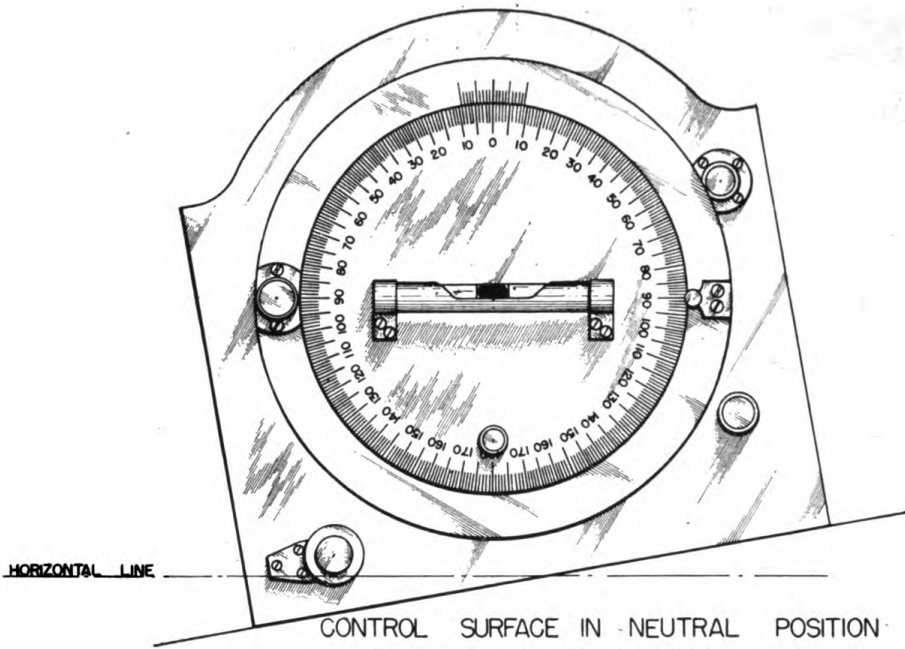

*Figure 42. Protractor assembly.*
d. PROTRACTOR ASSEMBLY. (1) This assembly (fig. 42) may be used to measure propeller-blade angle, control-surface movement, or any other angle. It consists of an aluminum frame in which a steel ring and a disk are mounted. Spirit levels are mounted on both the frame and the disk. Locks are provided for locking the ring to the frame or the disk. Scales are marked on the disk and the ring and the zeros of these scales provide reference marks between which the angle may be read. Hand-adjusting screws are provided so that the ring and the disk may be rotated in relation to the housing and to each other.
(2) To measure the upward throw of a control surface, first place the surface in neutral. After aligning the zeros on the ring-and-disk scales, lock the two together. Place the protractor in a vertical position